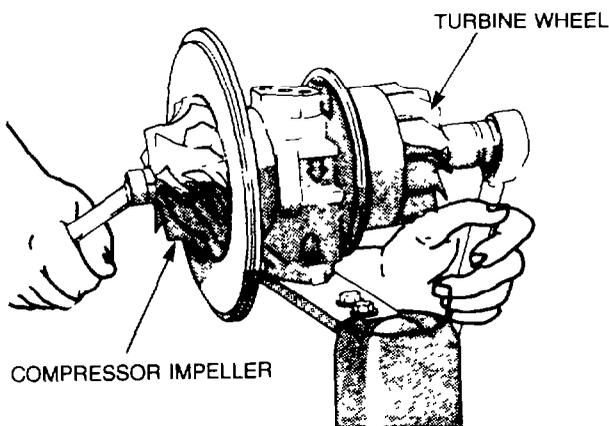

Figure 140 — Impeller Nut — Removal
- f. Secure the turbine wheel and shaft (item 2) with a socket (see Fig. 140) at the turbine wheel end of the shaft, then remove the impeller nut (see Fig. 139, item 27) from the turbine shaft.
- g. Remove the compressor impeller (item 26) from the turbine wheel and shaft (item 2), then remove the turbine wheel and shaft (item 2) from the bearing housing (item 14). Remove and discard the two split ring seals (item 3) from the shaft.